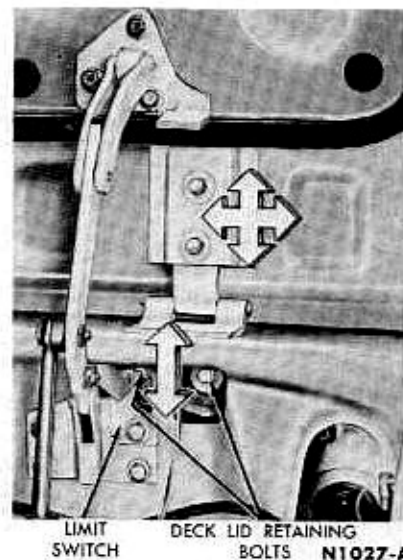

FIG. 7—Deck Lid Adjustment
1. Slightly loosen the hinge retaining bolts (Fig. 7), at the deck lid.
1. Loosen the deck lid hinge retaining bolts at the back panel. It will be necessary to remove the limit switch (Fig. 7), to gain access to one of the hinge bolts.